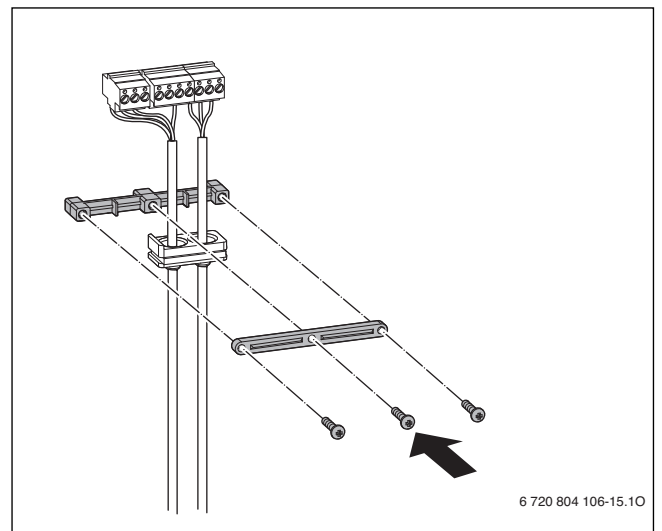

Fig. 17 Electrical connection - step 7
- ▶ Secure cables connected in step 6 with the strain relief supplied as shown in fig. 17.